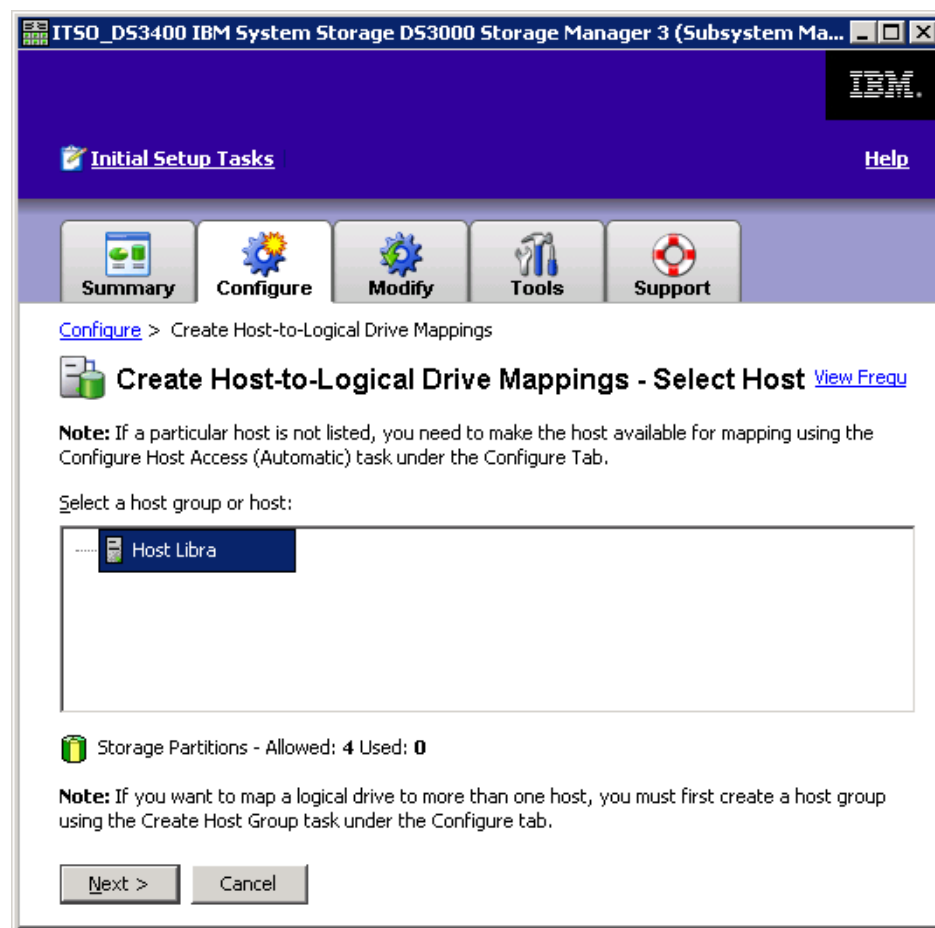

Figure 9-35 Create Host-to-Logical Drive Mappings - Select Host
1. Select the host server (or a group) that you want to map to the drives, as shown in Figure 9-35.